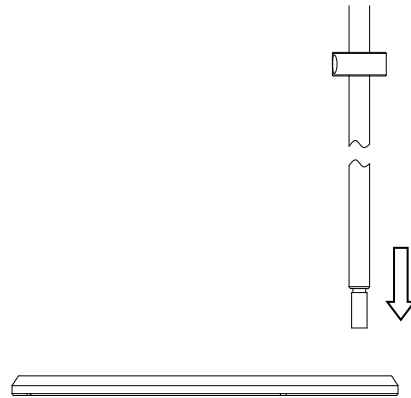
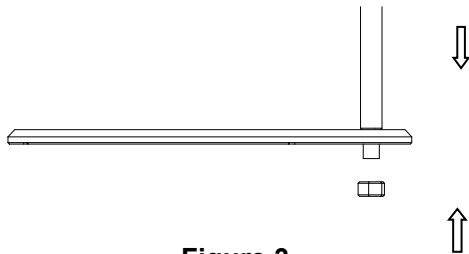

Figure 2
Figure 3
3. Fix the stand rod to the stand base with supplied nut (refer to figure 2 and figure 3).